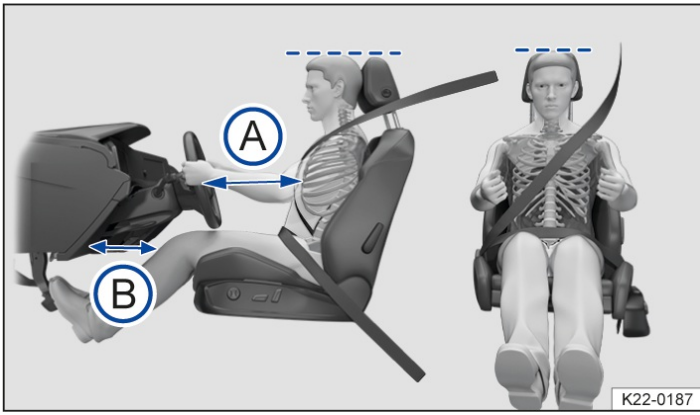

Fig. 1 Correct distance between the driver and the steering wheel, correct seat belt routing and correct head restraint adjustment (illustration).
- Adjust the head restraint so that its upper edge is at the same height as the top of the head, but not lower than eye level. Position the back of your head as close to the head restraint as possible at all times → *Fig. 1*.